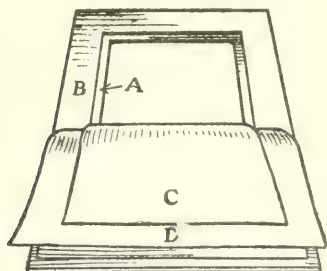

FIG. 192
careful to get the projecting margins equal on all sides. Set the picture in the frame (C, Fig. 192), and paste a paper backing over it (D), then attach cord to fancy-work rings fastened to the back.